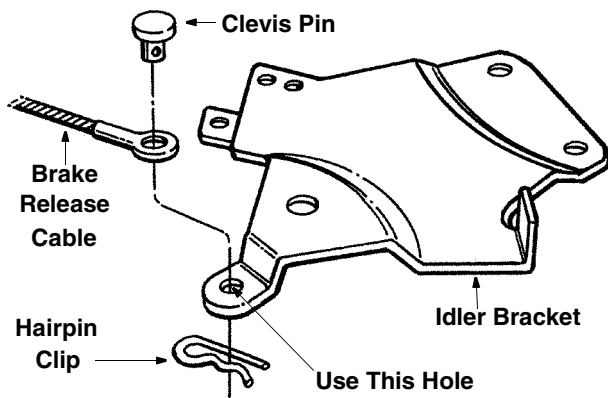

Figure 11
- Secure the brake release cable to the tractor idler bracket with clevis pin and small hairpin clip, using the hole in the idler bracket as shown in Figure 11.